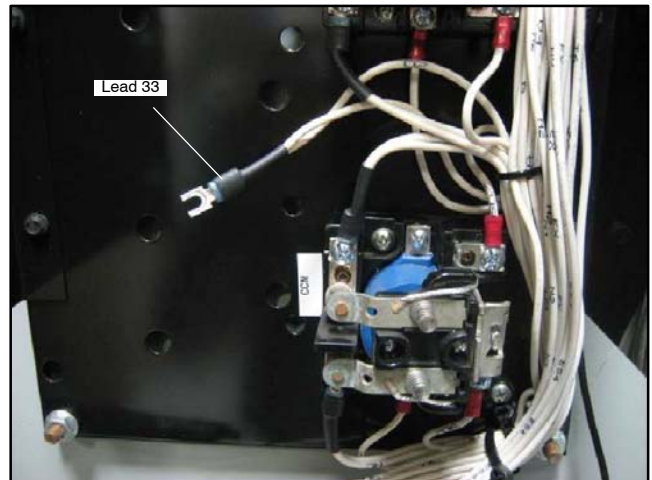
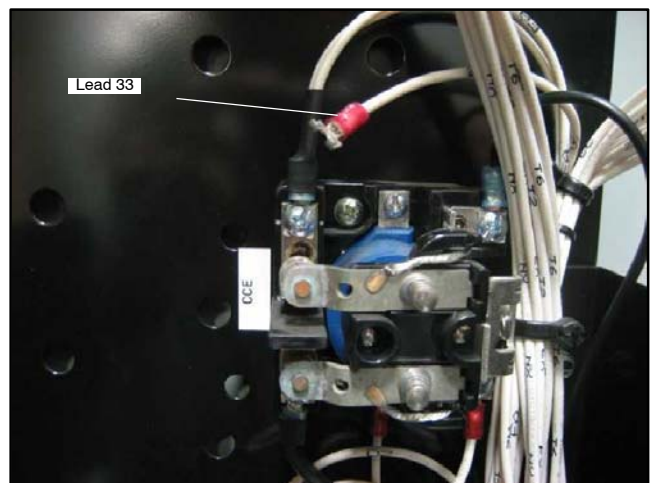

Figure 42 Cut Connector from Two Leads Labelled 33
Figure 43 Single Jumper Lead 33 (separate and discard)
27. Cut the terminal from the pair of leads marked 33 and separate the leads. See Figure 43. Discard the short jumper lead (33) that was connected from CCE-1 to CCN-1. See Figure 42. The remaining lead 33 will not be used.